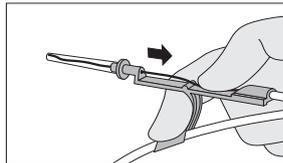

Figure 3
- Using thumb, retract “J” (refer to Figure 3).